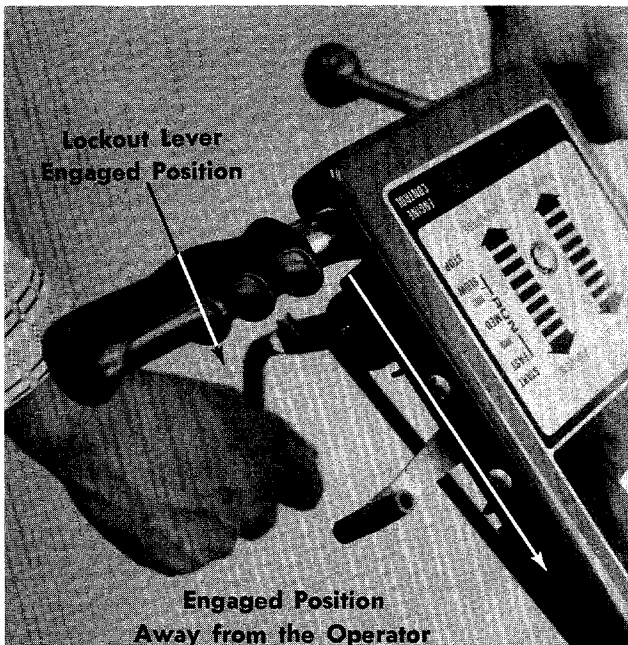

FIGURE 23. DRIVE MECHANISM ENGAGED
- Figures 23 and 24 show lockout levers engaged and locked over center.